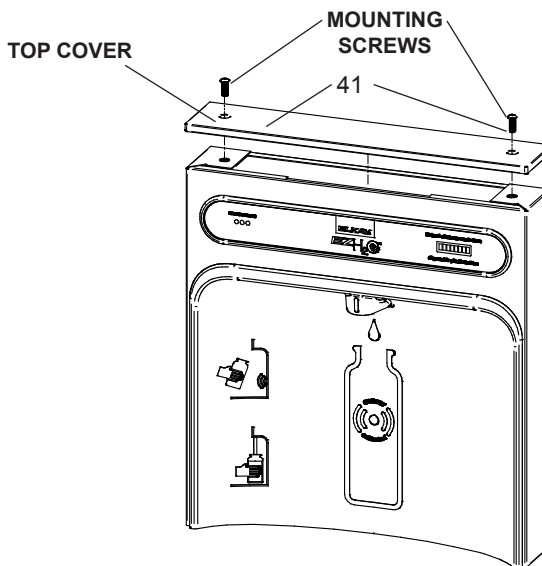
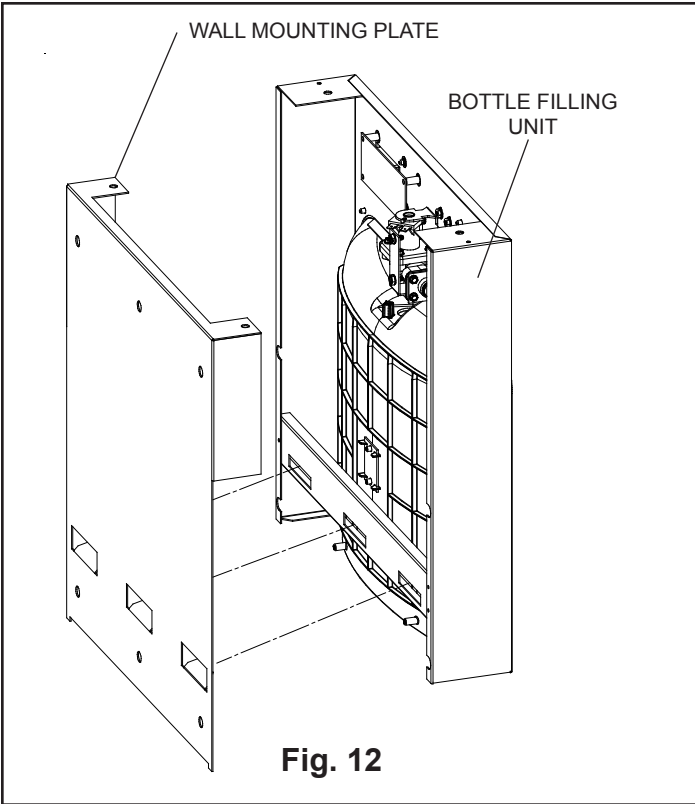

Fig. 9
Fig. 12
- 1) **Remove two (2) mounting screws** with 5/32" Allen wrench holding top cover to Bottle Filler (See Fig. 9). Remove top cover. Note do not discard mounting screws, they will be needed to reinstall top cover.
- 8) **With the power cord and waterline through hole** on top of water cooler place Bottle Filler on the three (3) angled tabs protruding from the wall mounting plate installed on wall. Make sure round boss in gasket fits in hole of basin. (See Fig. 12).
- 9) **Once Bottle Filler is installed on wall plate tabs,** water line and power cord are installed properly, push top of Bottle Filler toward wall and line up top cover two (2) holes.
- 10) **Reinstall Top Cover on Bottle Filler** (See Fig. 9) with two mounting screws from step 1 above. Caution, do not over tighten screws.